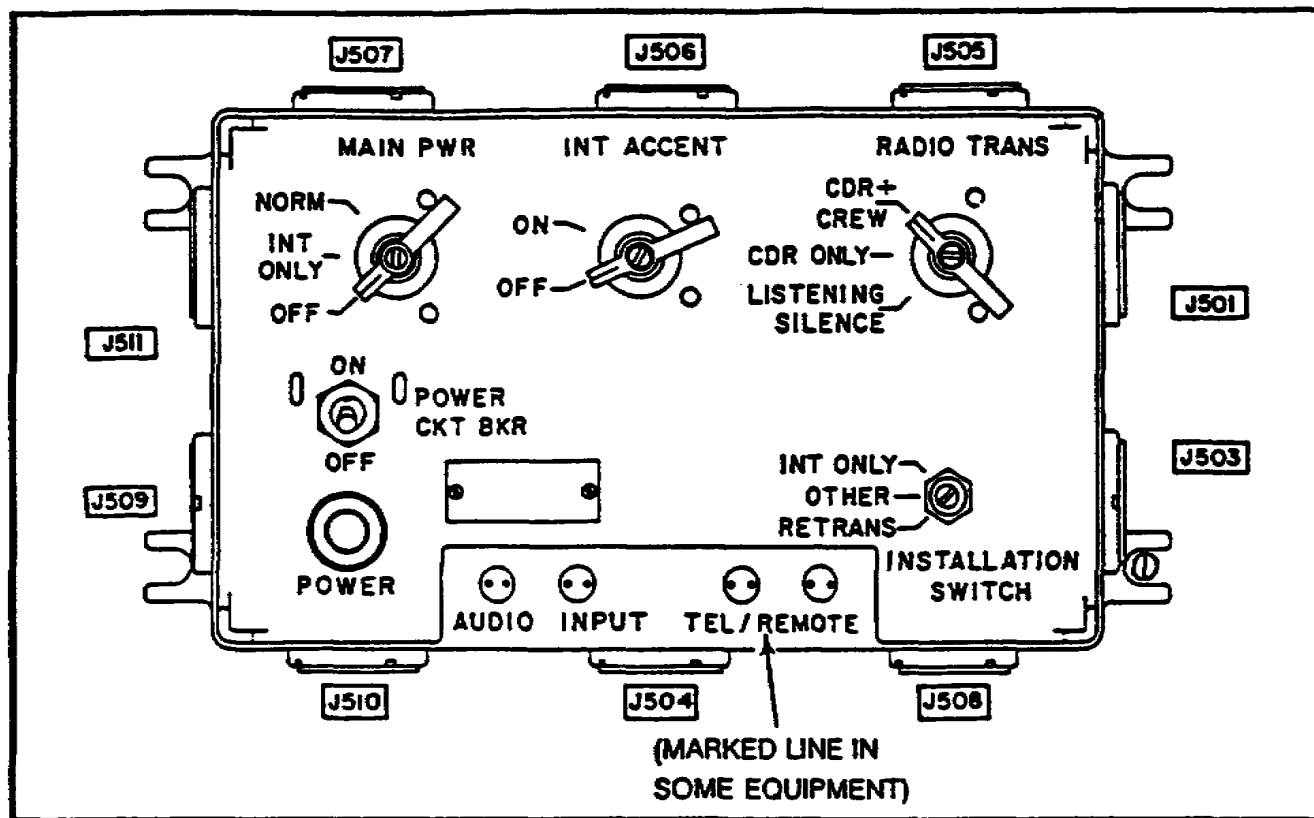

Figure 2. AM-1780/VRC jacks, control, and indicator.
f. See Figure 2. The AM-1780/VRC amplifies and controls the audio signal(s), and controls the DC power to the crew member control boxes C-2298. The commander's control box C-2298 is cabled to jack J504 on the AM-1780, and the crew member control boxes can be connected to jacks J505, J506, and J507 at